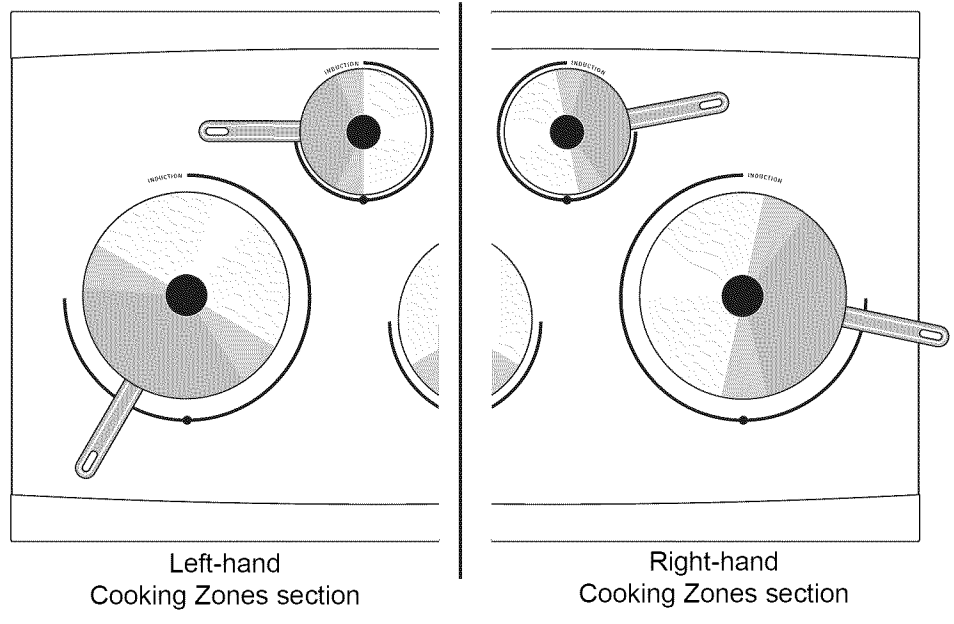

Fig. 1
1. Touch the  key pad until a beep sounds (about 5 seconds). The Lock LED above the  key pad will turn OFF indicating the cooktop is unlocked. The Cooking Zones or any of the other Cooktop functions may now be used (See Fig. 1, page 6).